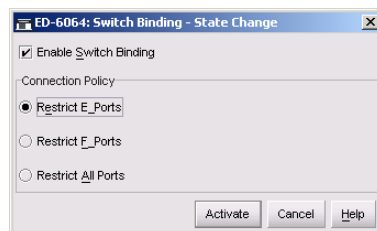

Figure 53: Switch Binding - State Change Dialog Box
- a. In the *Element Manager* application, click the **Hardware** tab. In the **Hardware View**, select **Switch Binding**, and then select **Change State** from the **Configure** menu. The **Switch Binding - State Change** dialog box displays (Figure 53).